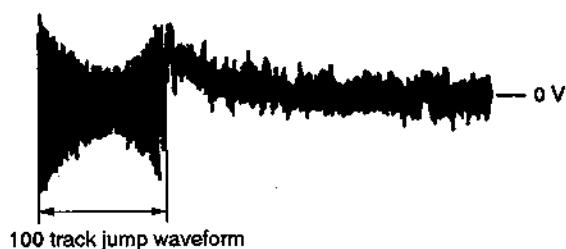

Fig. 3
7. Press \blacktriangleright ($\blacktriangleright\blacktriangleright$) or \blacktriangleleft key and observe the 100 track jump waveform. Check that no traverse waveform appears for both \blacktriangleright ($\blacktriangleright\blacktriangleright$) or \blacktriangleleft directions. (See Figures 3 and 4.) It is acceptable if the traverse waveform appears only now and then, but if it appears constantly, raise tracking gain slightly and check step 7 again.